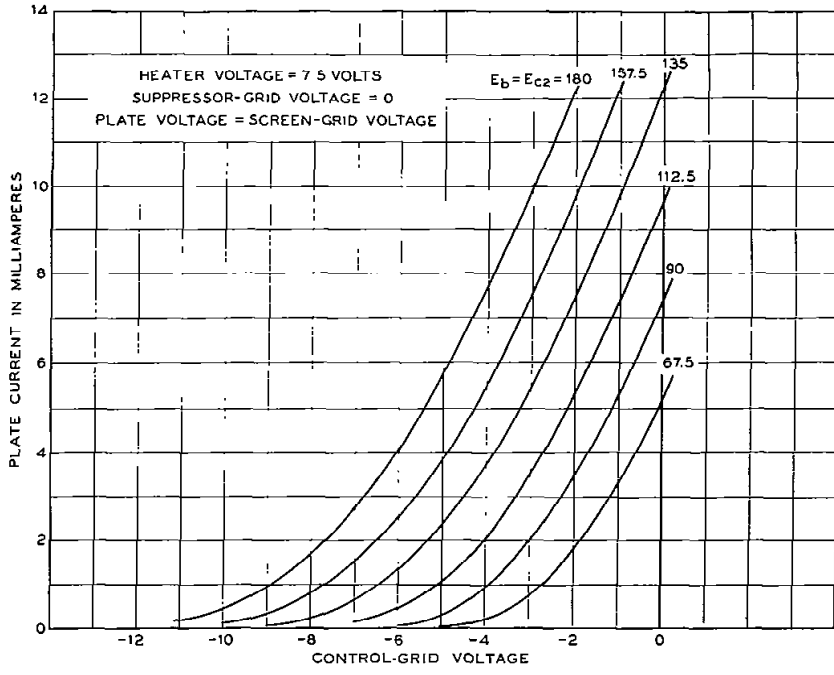
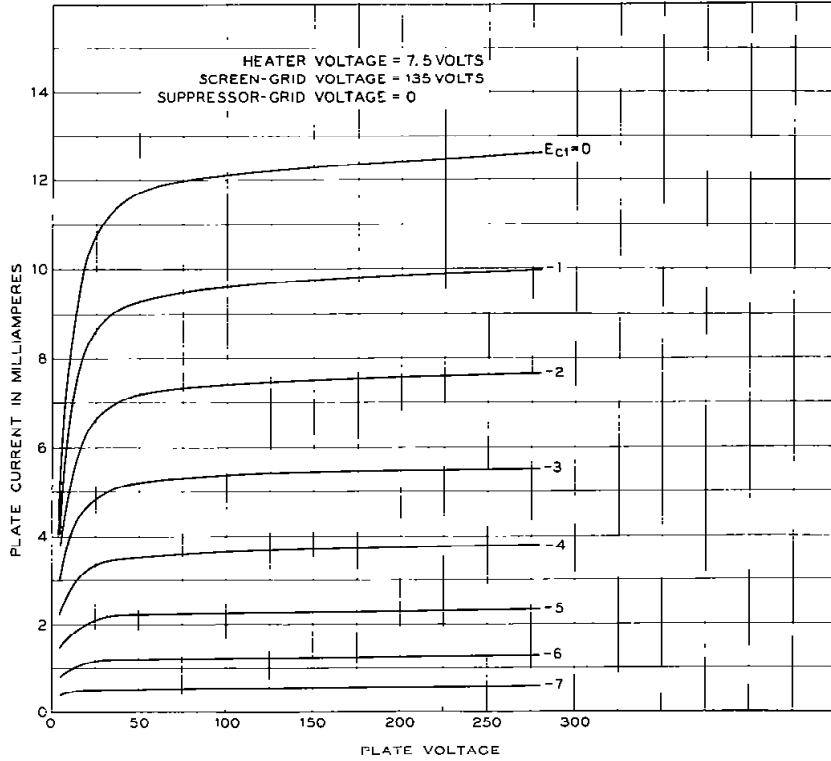
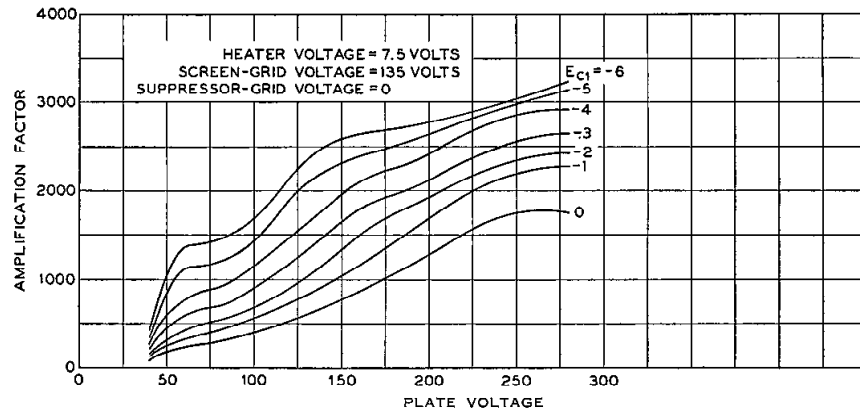
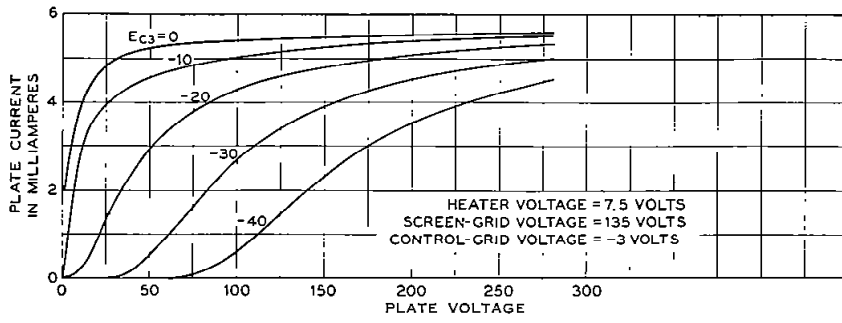

FIG. 3
FIG. 8
FIG. 10
FIG. 13
**Characteristics**—Plate current and screen-grid current characteristics of a typical 328A tube are shown in Figures 3 and 4, respectively, as functions of control-grid voltage for several values of screen-grid and plate voltage and zero suppressor-grid voltage. The screen-grid voltage for these characteristics is equal to the plate voltage. Corresponding amplification factor, plate resistance, and transconductance characteristics are given in Figures 5, 6 and 7. Plate current and screen-grid current characteristics as functions of plate voltage are given in Figures 8 and 9, respectively, for several values of control-grid voltage, a screen-grid voltage of 135 volts, and zero suppressor-grid voltage. Corresponding amplification factor, plate resistance, and transconductance characteristics are shown in Figures 10, 11 and 12. Plate current, screen-grid current, plate resistance, and transconductance characteristics are shown in Figures 13, 14, 15 and 16 as functions of plate voltage for several values of suppressor-grid voltage, a screen-grid voltage of 135 volts, and a control-grid voltage of  $-3$  volts. These last characteristics are of particular interest in modulator applications where separate inputs are applied to the control and suppressor grids.